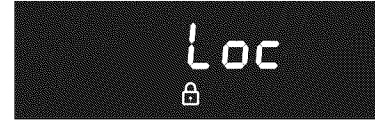

Fig. 5
2. **Loc** will appear in the display (See Fig. 5).